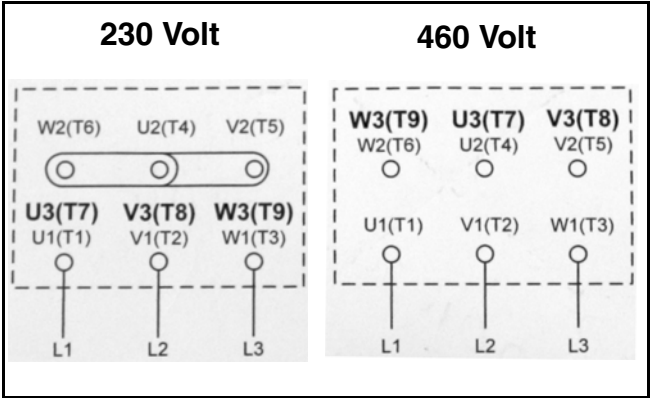

Figure 11
2. Determine wiring configuration (Figure 11).